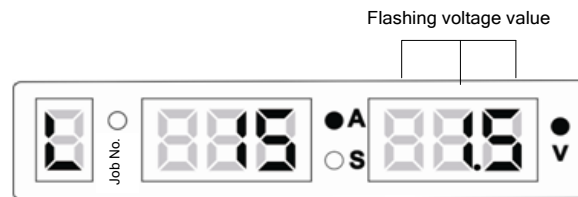

Figure 3-37 UI for locking the voltage adjustment range
5. On the UI for locking the voltage adjustment range, the right screen flashes. See Figure 3-37. Use the knob on the control panel of the welder to set the voltage adjustment range and press the **LOAD**  button. The welder enters the state where the welding parameter adjustment ranges are locked. The default range is  $\pm 1.5$  V.